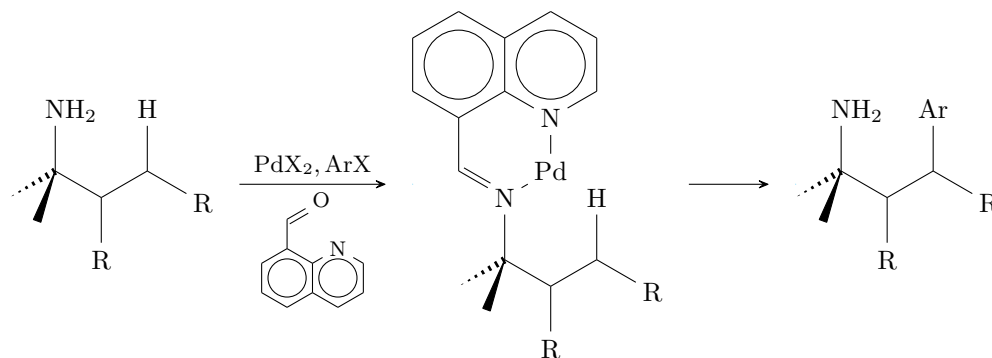

Figure 6.7: Dong's directed C–H activation.
■ This is nicely demonstrated by Guangbin Dong's example, as seen in Figure 6.7.